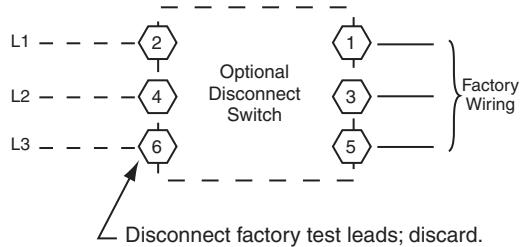
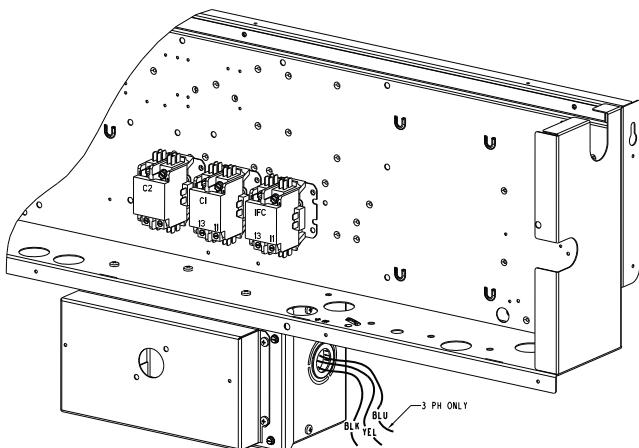

Fig. 24 — Power Wiring Connections
Fig. 29 — Location of Non-Fused Disconnect Enclosure
Field power wires are connected to the unit at line-side pressure lugs on compressor contactor C and indoor fan contactor IFC or terminal board (see wiring diagram label for control box component arrangement) or at factory-installed option non-fused disconnect switch. Max wire size is #2 AWG (copper only). See Fig. 24.
The factory-installed option non-fused disconnect (NFD) switch is located in a weatherproof enclosure located under the main control box (see Fig. 29). The manual switch handle is accessible through an opening in the access panel. Discard the factory test leads (see Fig. 24).
1. Remove the Control Box access panel. The NFD enclosure is located below the Control Box (see Fig. 29).
All field wiring must comply with NEC and all local codes. Size wire based on MCA (Minimum Circuit Amps) on the unit informative plate. See Fig. 24 and the unit label diagram for power wiring connections to the unit power terminal blocks and equipment ground. Maximum wire size is #2 ga AWG per pole.
2. Install power lines to terminal connections as shown in Fig. 24.